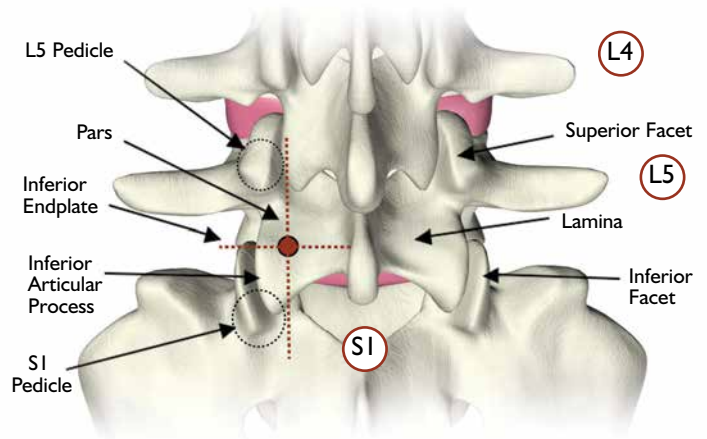

Figure 1 - AP view for Entry Point
A start point, defined as the point where the implant will enter the bone, is determined by using Anterior-Posterior (AP) and Lateral fluoroscopic images. From the AP view (Fig 1), the Cephalad/Caudal Start point is located using the transition of the pars and inferior articular process. Furthermore this point should be inline with the Inferior endplate of the superior vertebral body of the disc level being treated. The Medial/Lateral Start Point is the medial edge of a line drawn between the pedicles above and below.